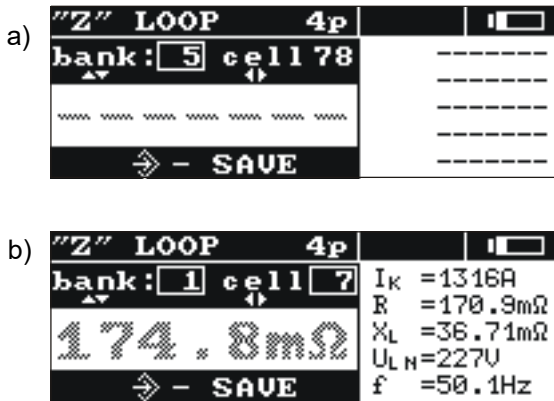

Fig.24. The layout of the screen in the store-in-memory mode: a) empty cell b) cell with the recorded result (the main result is displayed in grey)
- Press the key **12** . The currently used bank number and the address of the currently used cell will be displayed on the screen (Fig.24). The border around the bank number means that at least one cell in the bank is occupied. The border around the cell number means that the cell is occupied.